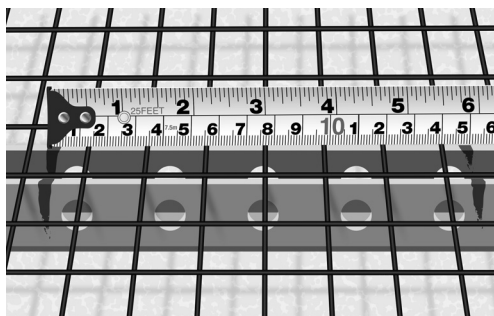

Fig. 15. Mark CC distance on the chicken wire
4. Mark the calculated CC distance on the chicken wire (Fig. 15). The heating cable must be laid in parallel with the joist construction.